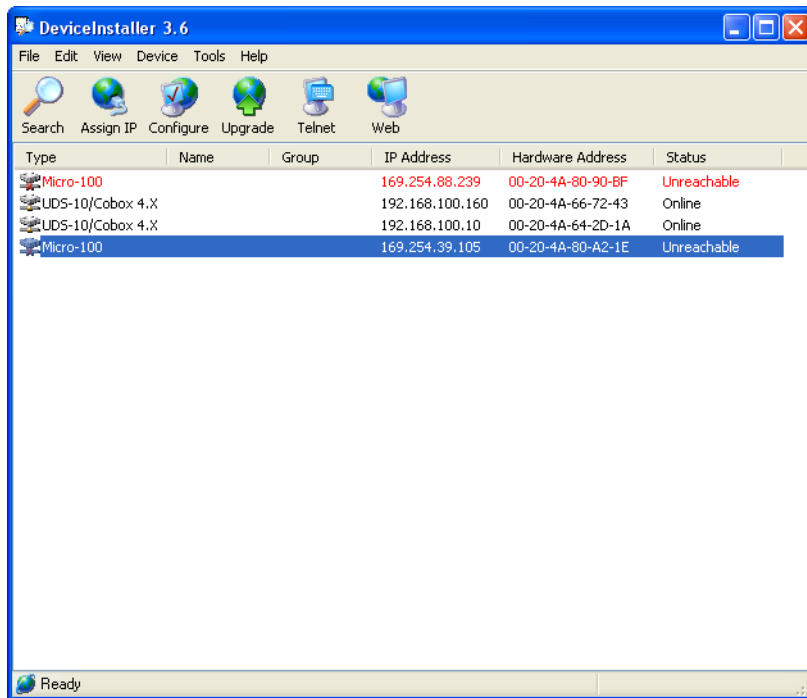

Figure 20: Device Listing Window
3. Click on the  button. A list of devices is displayed showing IP address, hardware address and device status (see Figure 20 on page 15).
1. From the DeviceInstaller page (see Figure 20 on page 15), click on the  button or open a DOS box.